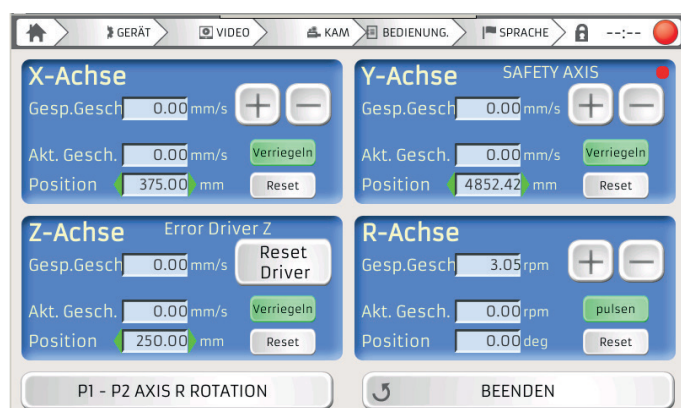

Figure 54 – Safety piston error
- SAFETY PISTON PRESSURE ERROR** – when the air pressure is not sufficient to operate the safety piston this error will be generated, indicated by the message SAFE AXIS and the red dot in the top right corner of the box corresponding to the affected axis (see Y Axis in figure 54). The same error may be generated in the event of an axis malfunction in order to prevent unwanted movements. Check that the air pressure is correct and that there are no leaks. If the problem persists after all the checks have been carried out and completed, contact the technical assistance service.